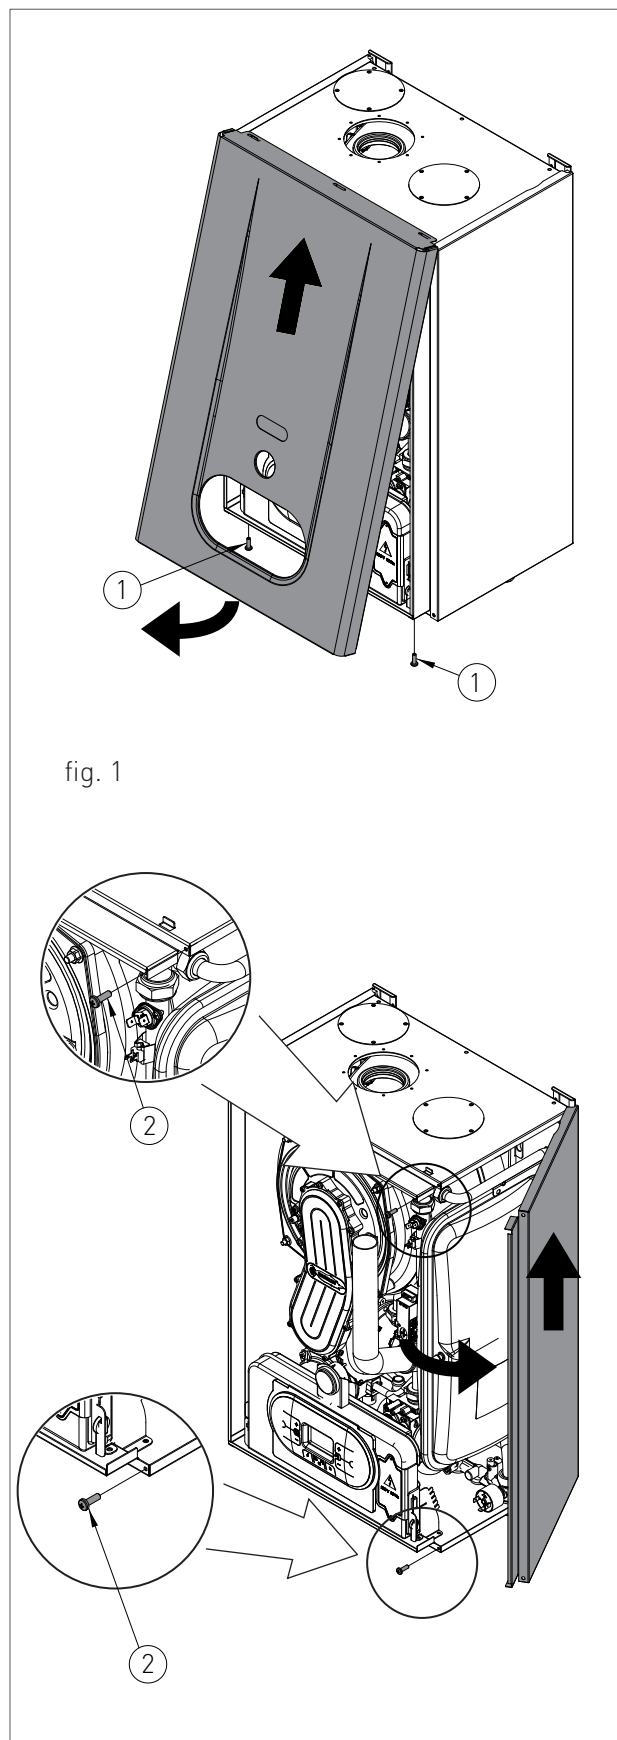

fig. 1
- > grab the front panel from the bottom and remove it pulling it to yourself and then upwards (see fig. 1).
- > remove the fastening screws (2 - fig.1) placed on the front edge of the side panel;
- > grab the bottom of the panel and remove it by moving it sideways and then pulling it upwards (see fig. 1).